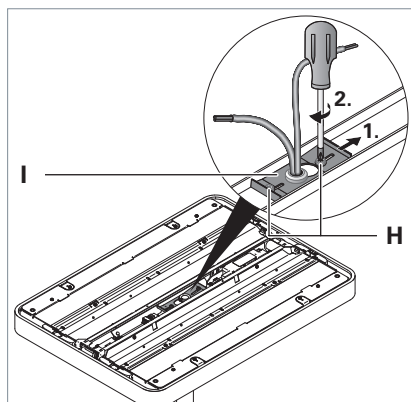

Fig. 9: Fastening the light head.
- Unscrew both screws **H** on the retaining strap **I**, see Fig. 9.